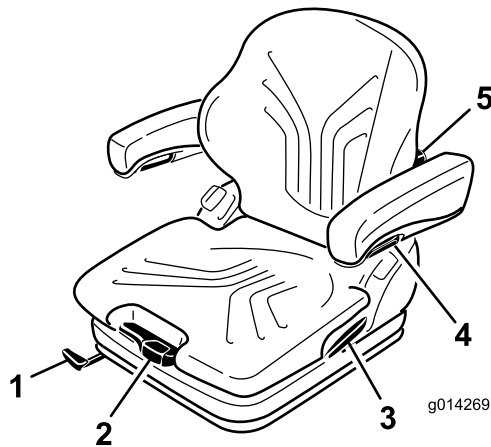

Figure 24
The seat is adjusted for the driver's weight by pulling or pressing the weight adjustment lever (Figure 24).
1. To adjust, lift the lever to unlock the seat (Figure 24).
By turning the adjustment knob upwards, the curvature in the upper part of the backrest cushion can be adjusted. By turning the knob downwards, the curvature in the lower part of the backrest cushion can be adjusted (Figure 24).
To adjust the armrests for height, separate the round cap (Figure 24) from the cover, loosen the hexagon nut (13 mm) behind it and adjust the armrests to the desired position and tighten the nut. Replace the cap onto the nut.
To adjust the angle of the armrests, turn the adjustment knob (Figure 24).
Pull up the locking lever to release the backrest catch (Figure 24). When releasing the backrest catch, do not apply load to the backrest by pressing against it.